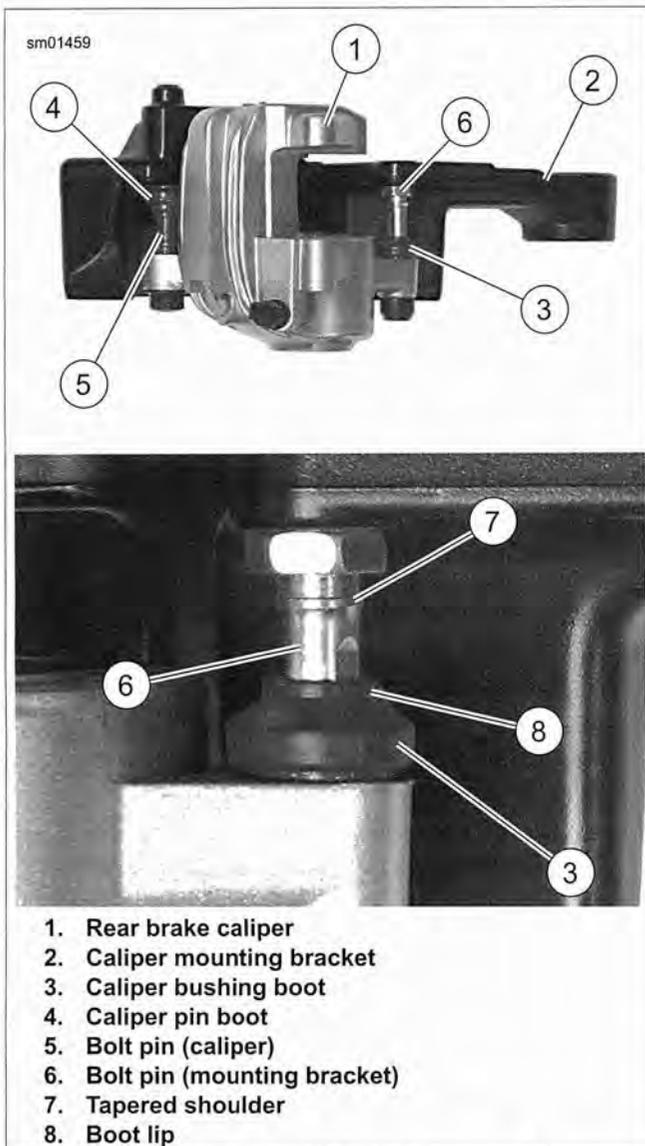

Figure 2-95. Assembling Rear Brake Caliper to Mounting Bracket
2. See Figure 2-95. Apply G40M BRAKE GREASE inside boot lip (8) to prevent sticking between boots (3, 4) and bolt pins (5, 6).
3. Insert mounting bracket bolt pin (6) into caliper bushing boot (3).